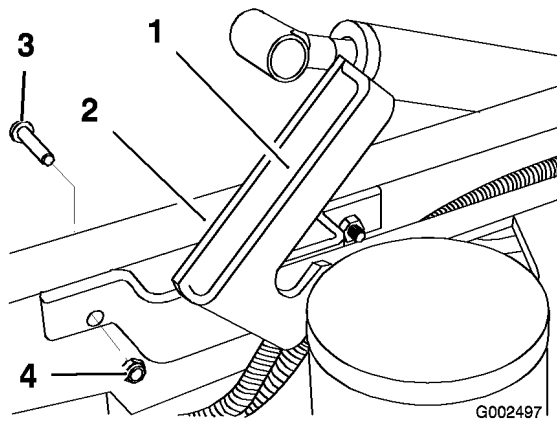
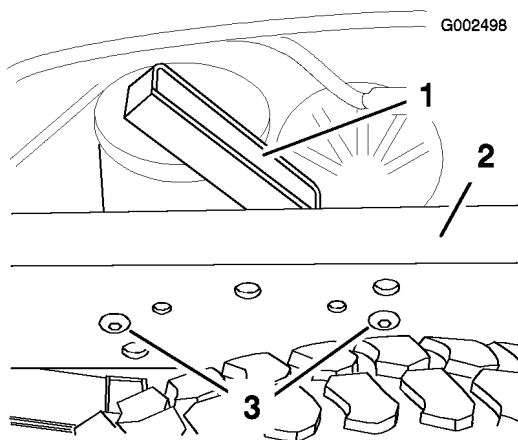

Figure 12
Figure 13
inch) as shown in Figure 12 and Figure 13.
4. If necessary, loosely assemble the prop rod, jam nut, and yoke (Fig. 13).